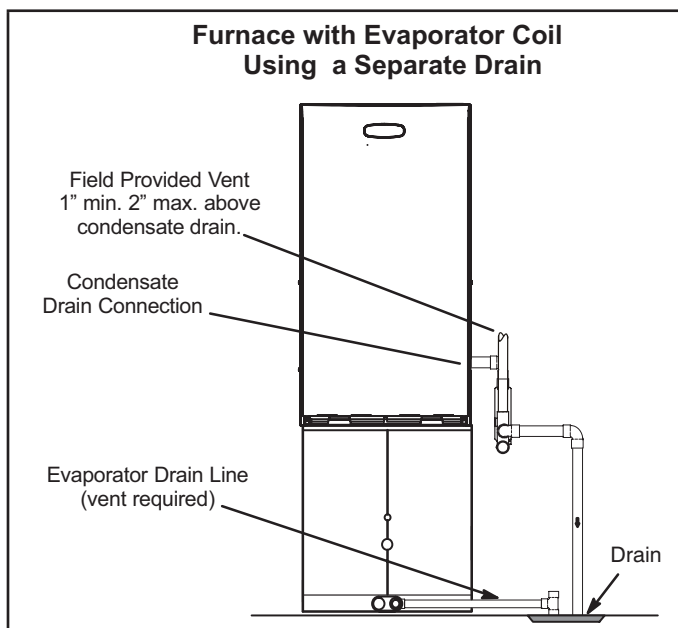

FIGURE 48
- 5 - FIGURE 48 shows the furnace and evaporator coil using a separate drain. If necessary, the condensate line from the furnace and evaporator coil can drain together. See FIGURE 49. The field provided vent must be a minimum 1" to a maximum 2" length above the condensate drain outlet connection.